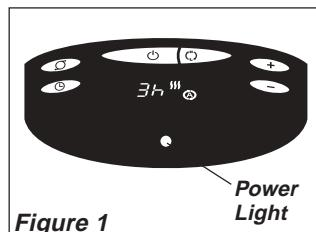

Figure 1
3. When the Heater is initially plugged in, there will be a "beep" and the **Power Light** will come on indicating that there is power to the unit. The **Power Light** will remain lit until the Heater is unplugged from the electrical outlet. (Figure 1)